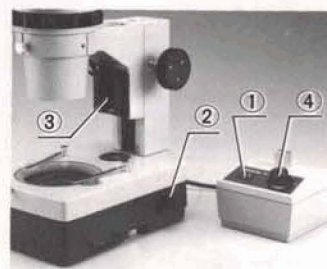

Fig. 5
1) Activate the on-off switch ① of the transformer TL-2. (Fig. 5)
2) Set the light path selector switch ②.